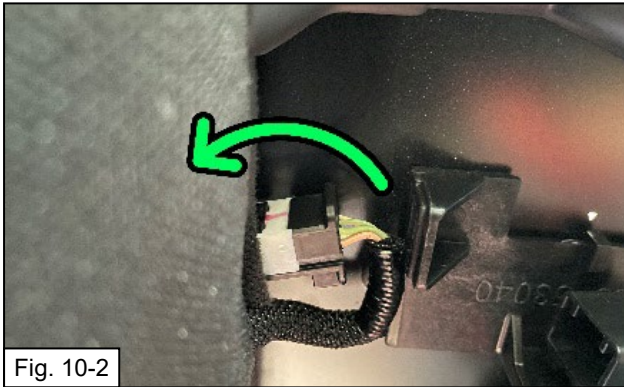
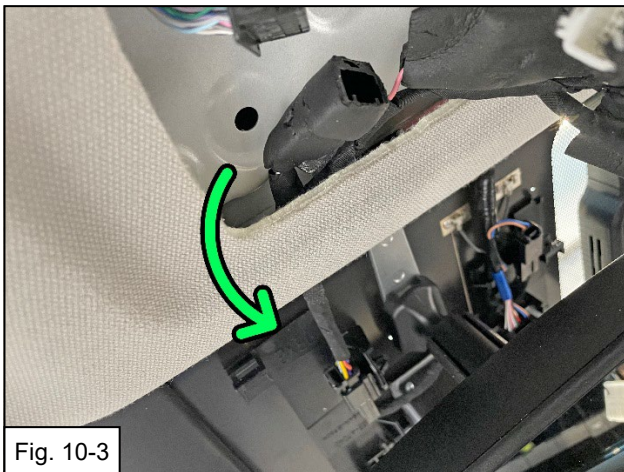

Fig. 10-2
Fig. 10-3
(1) Gently pull the vehicle's Power Mirror connector back inside the Map Light Console Area (Fig. 10-2)
(2) Insert the male mirror connector into the Y-Harness black female connector.
(3) Apply the supplied Foam Tape to insulate the connector from rattles.
(4) Gently feed the black Y-Harness male connector back to the TSS area and insert into the female mirror connector affixed to the mirror base. (Fig. 10-3)